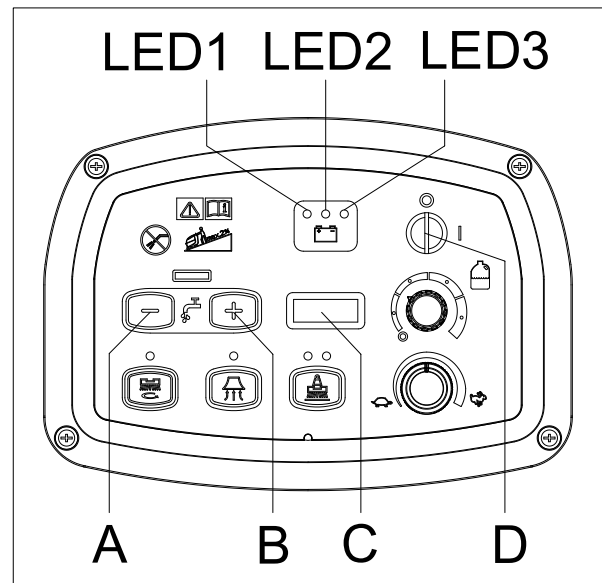

Figure 4
1. Press both the buttons (A, Figure. 4) and (B) at the same time, Insert the ignition key (D) and turn on the power, after 0.5 second, enter battery setting mode. LED display during setting(C),Release the buttons.
2. The mode can be shift from 0 to 5 by pressing button (B), or shift from 5 to 0 by pressing button (A). After the battery mode setting is completed, turn off the power (D) and the new setting of battery mode can be saved automatically.